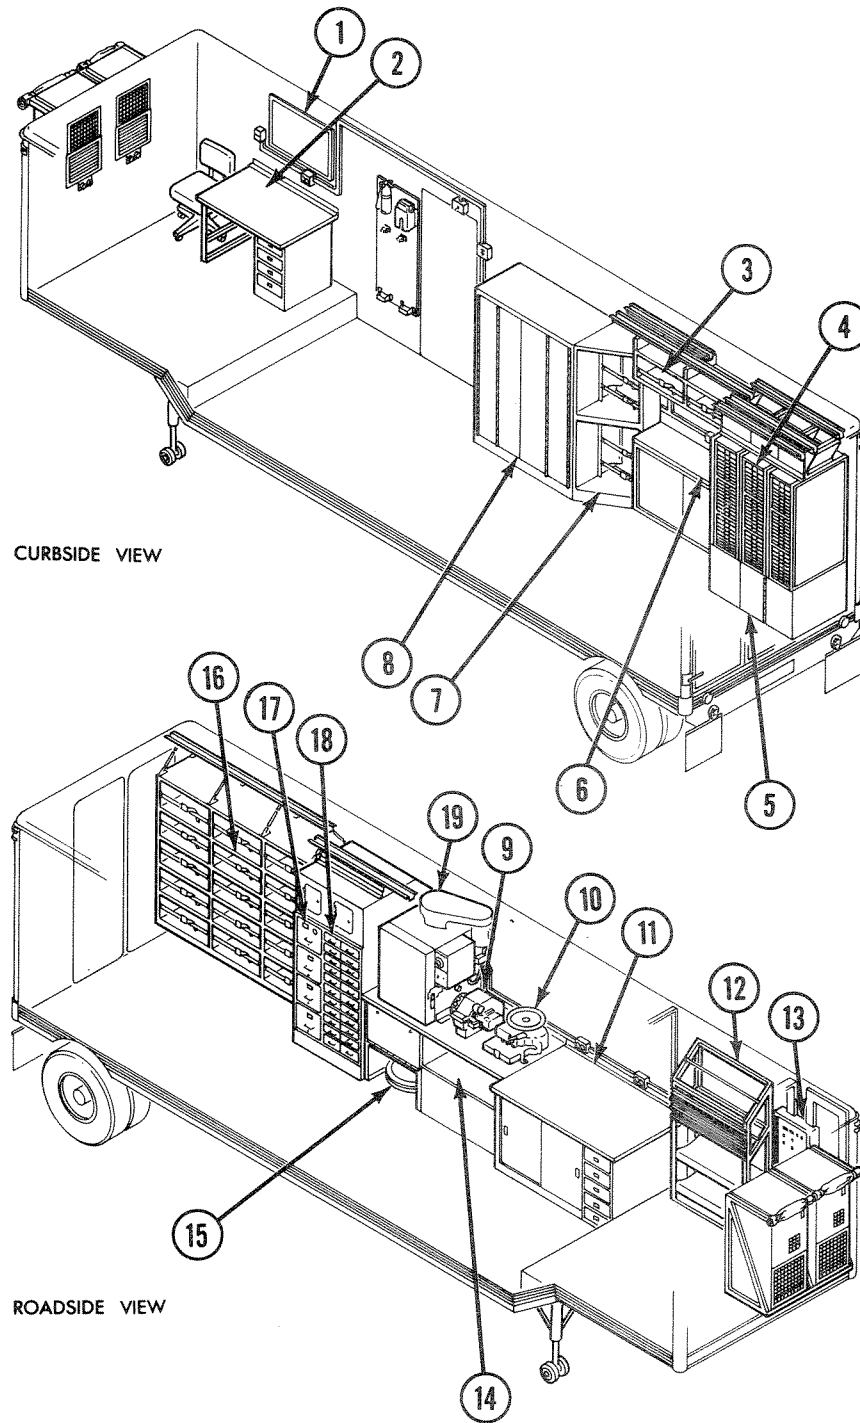

Figure 2-38. P&P Shop Major Interior Features
b. Interior Features. Figure 2-38 shows P&P shop major interior features.